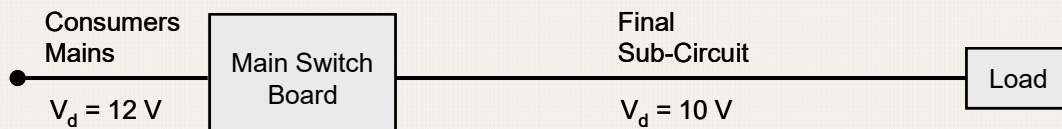

figure 6.
- Figure 6 is a 400 V three phase installation. Determine the total conductor voltage drop.
- Does the circuit of figure 6 comply with Australian standards (yes/No) why?